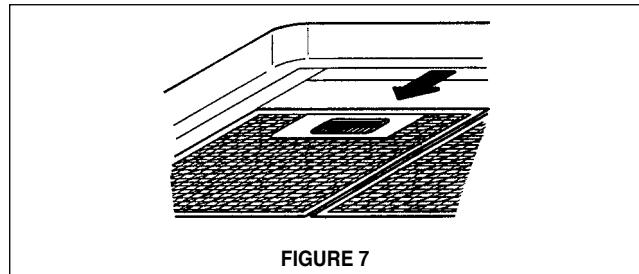

FIGURE 7
2. Remove the grease filters from the unit and set aside. The grease filters are removed by pressing the handle in front of the filter (**FIGURE 7**). When replacing, make sure that the filters are properly positioned with the handles in front and visible.